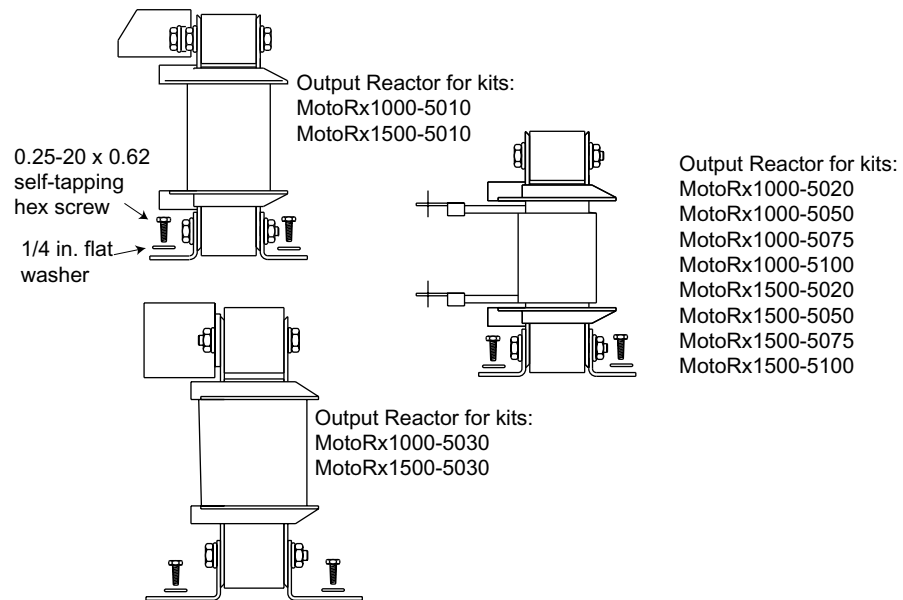

Figure 5: Output Reactor Mounting
3. Mount the output reactor to the drive housing, using the four 0.25-20 X 0.62 self tapping hex screws and 1/4 in. flat washers, as shown in Figure 5 below.